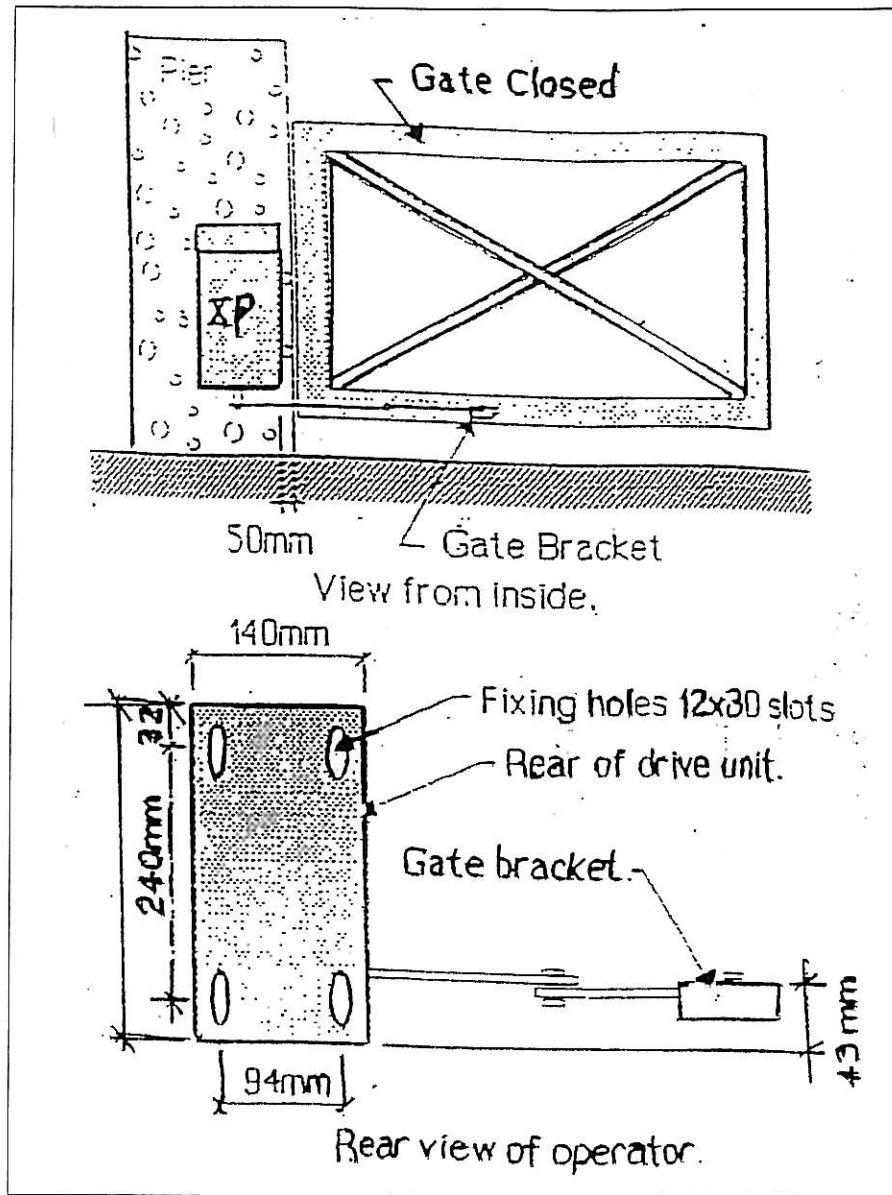

Figure 2: Position of Operator [s]
3. Position each unit on the gate posts[s] approximately 50mm from the edge of the Pier/Post. The Vertical position is found by locating the gate bracket. The Gate bracket is best placed where there is adequate fixing on the gate and movement of the arms is unrestricted [See Fig. 2]